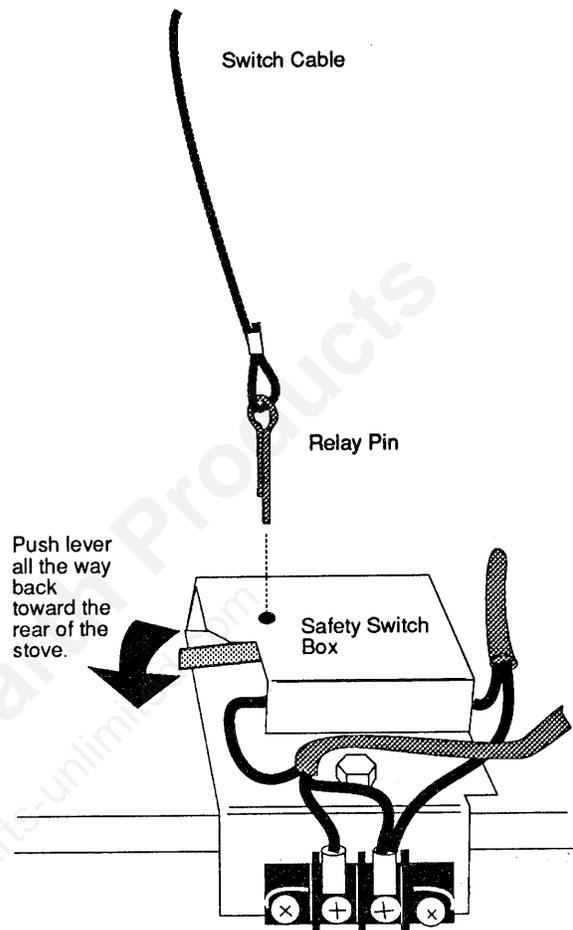

Figure 40. Reset the relay pin into the Safety Switch.
Step 1. Push the switch lever fully back as shown in Fig.40 and insert the cotter pin/cable all the way through the top and bottom of the switch box. The pin must hold the lever back to engage the switch mechanism.